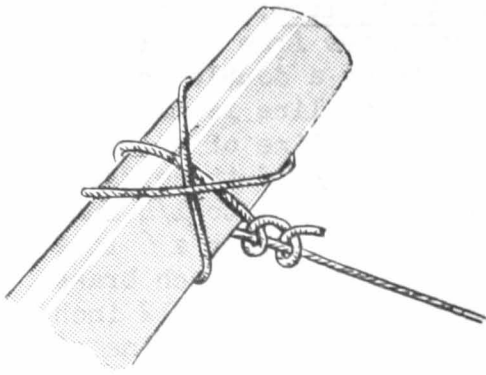

FIG. 5 - METHOD OF ATTACHING TAG LINE
1. A tag line, which is fastened a few inches from the tip of the trolling pole by a double seizing (Figure 5). The tag line is made up of a 1/2 inch manila line of about 2 feet in length, a heavy duty corkscrew swivel (Figure 6), a 1/16 to 1/4 inch stainless tag line wire with a 6 to 9 foot section of 1/4 to 1/2 inch brass pear-link chain (Figure 7), a 12 inch long leather thong or breaker line of 1/2 to 3/4 inch rawhide, and a nickel silver line clamp (metal clothespin) (Figure 8). The tag line varies in length with the size of the pole but the general measure is to permit partial exposure of the pear-link chain at trolling speed.